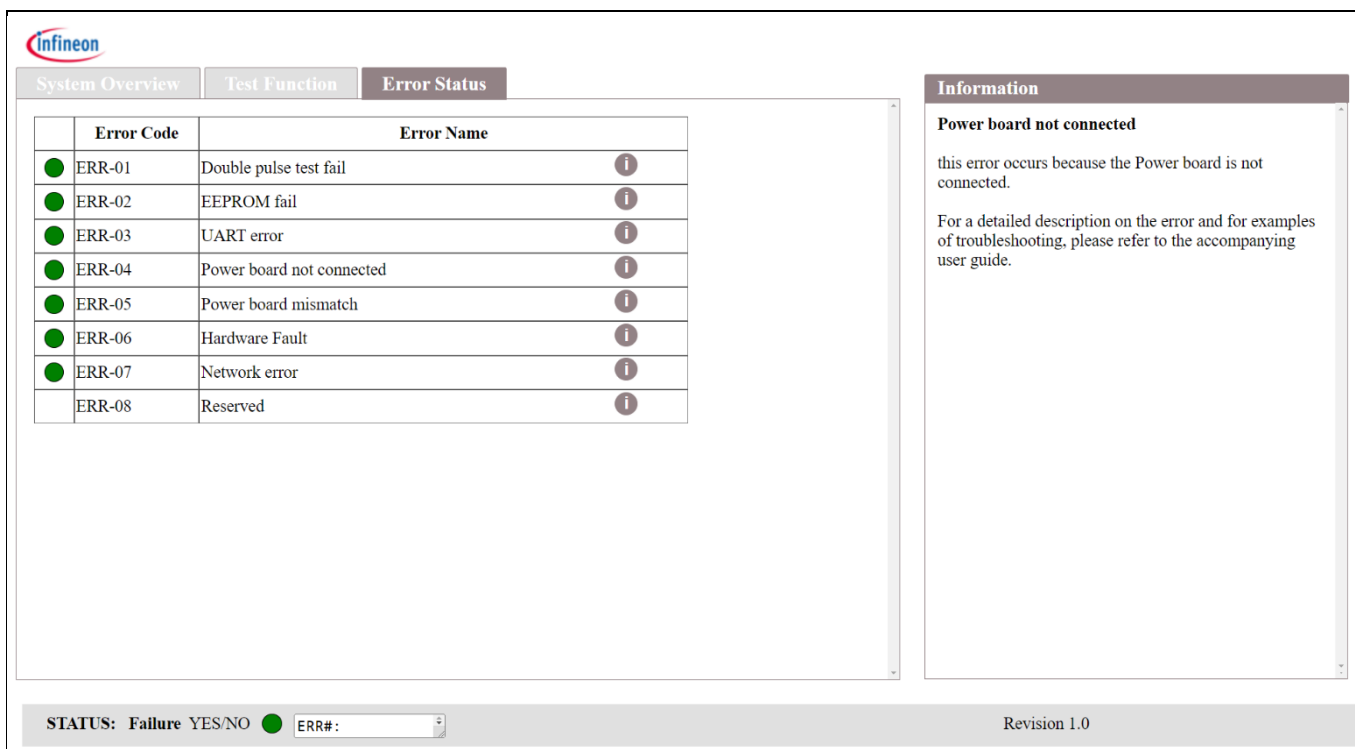

Figure 25 The Error Status tab
4. If any fault occurs, the indicator at the bottom will turn red. You can check the Error Status tab (see Figure 25) for more information.